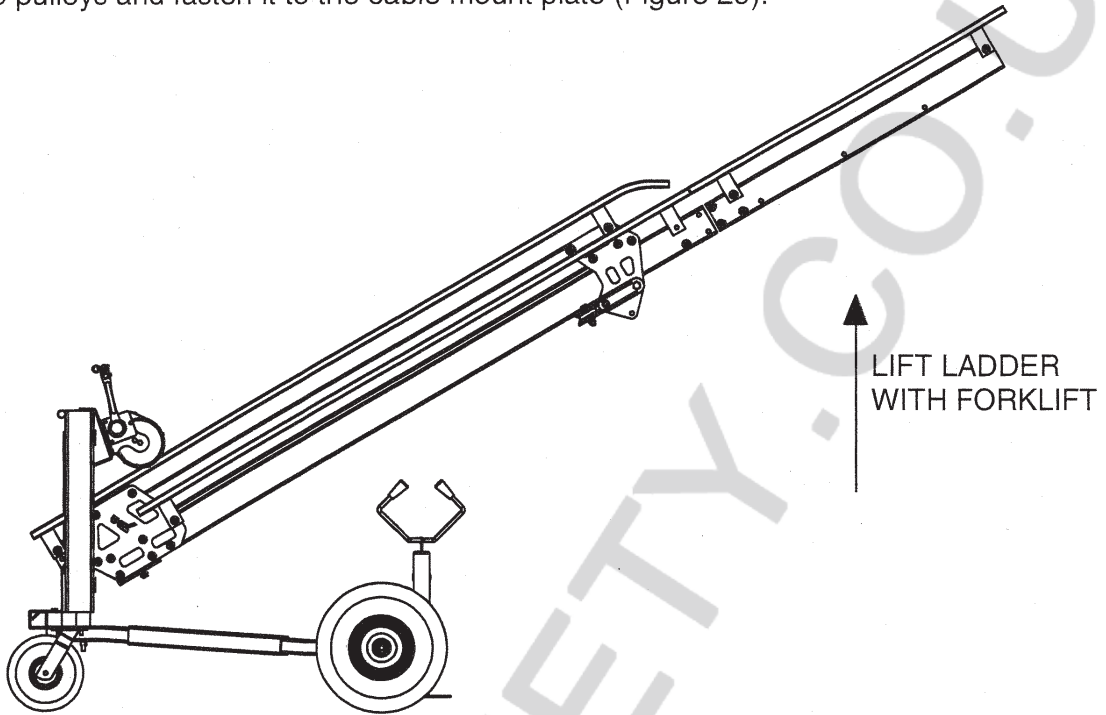
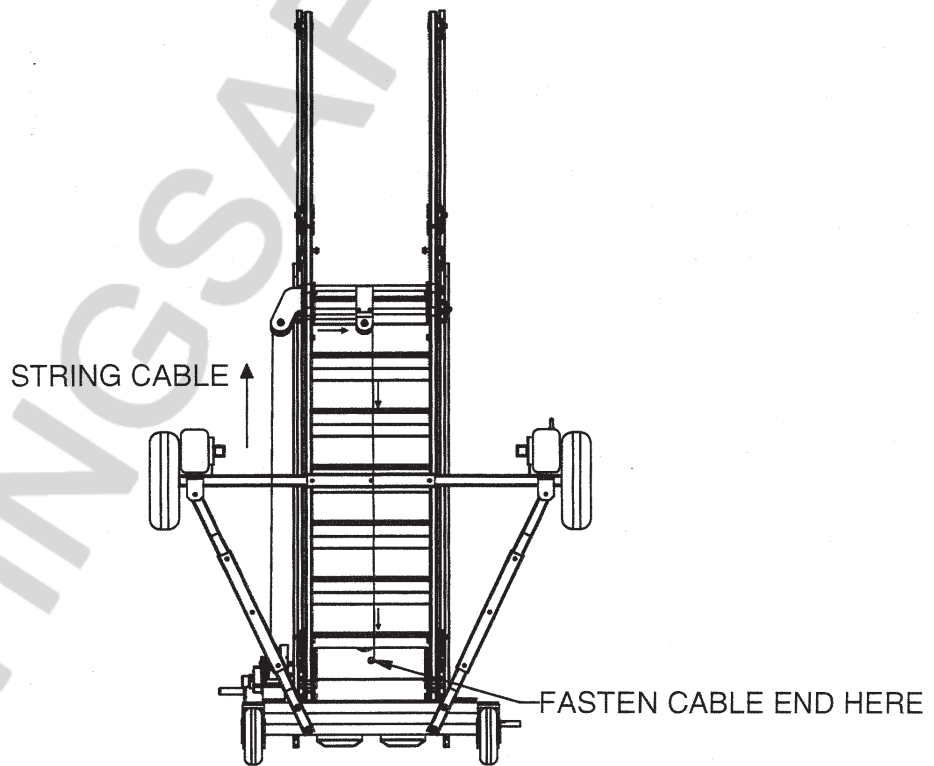

Figure 28
Figure 29
5. Raise the front of the ladder with a forklift (Figure 28). String the winch cable through the pulleys and fasten it to the cable mount plate (Figure 29).